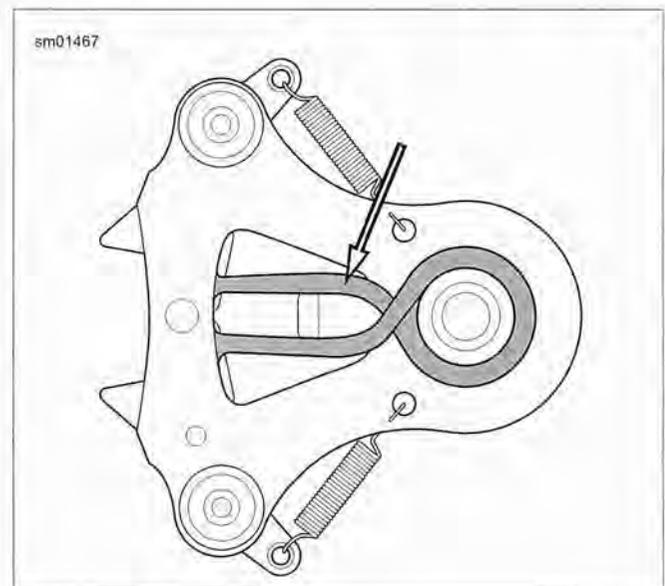

Figure 5-98. Shifter Shaft Return Spring (Correctly Installed)
1. See Figure 5-98. Correctly install shifter return spring onto the reverse side of the shifter shaft assembly before placing shaft in left crankcase half.